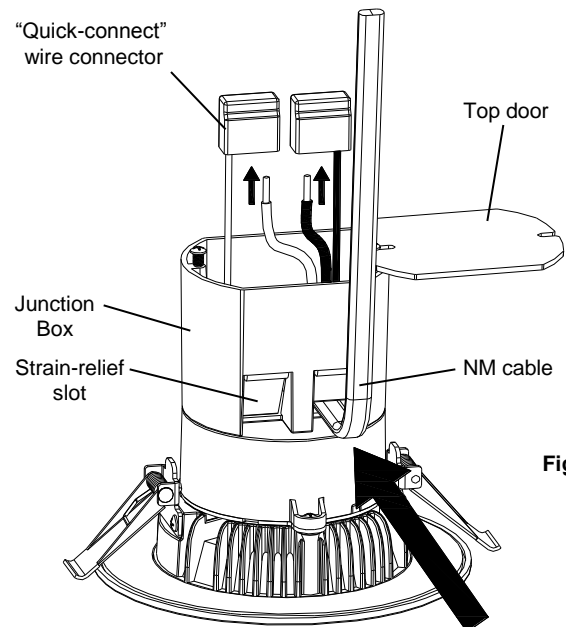

Fig. 3
4. Open the top door of the junction box. Insert about 5 or 6 inches of the NM cable into the junction box through one of the provided strain-relief slots. (Fig. 3)
5. Remove at least 3" of the cable's outer sheath and remove the plastic or paper over-wrap. Strip approximately 3/8" of insulation from the ends of all supply wires. Using the provided "quick-connect" wire connectors, make the following wire connections within the junction box (Fig. 3):